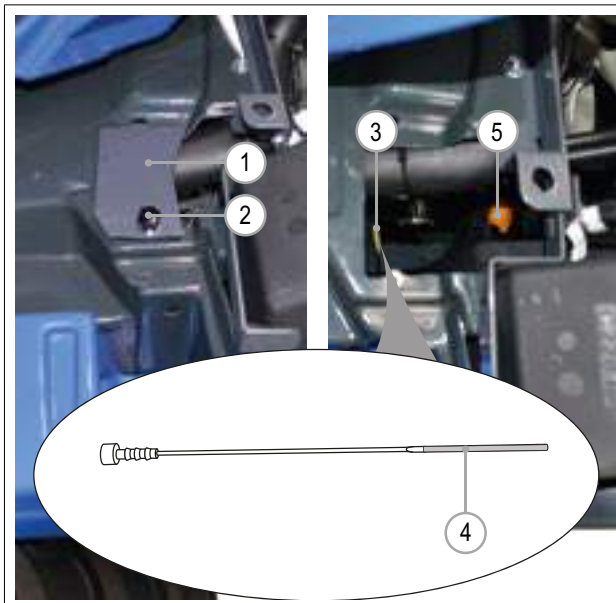
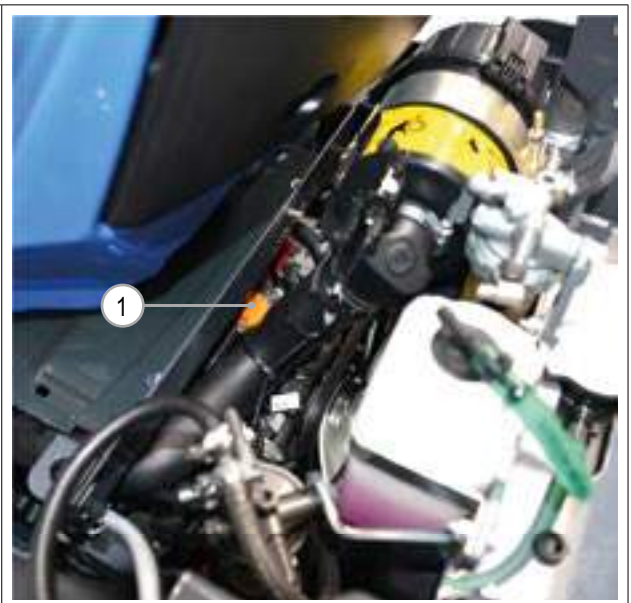

FIG. 45
FIG. 46
- 4) Unscrew the knob (FIG. 45 - Ref. 2) to open the cover (FIG. 45 - Ref. 1) located in the left side.
- 5) Pull out the dipstick (FIG. 45 - Ref. 3) and look for both the full and add oil lines (FIG. 45 - Ref. 4). The correct oil level is between those two lines.
- Open the cap of the engine oil filler (FIG. 45 - Ref. 5 or FIG. 46 - Ref. 1);